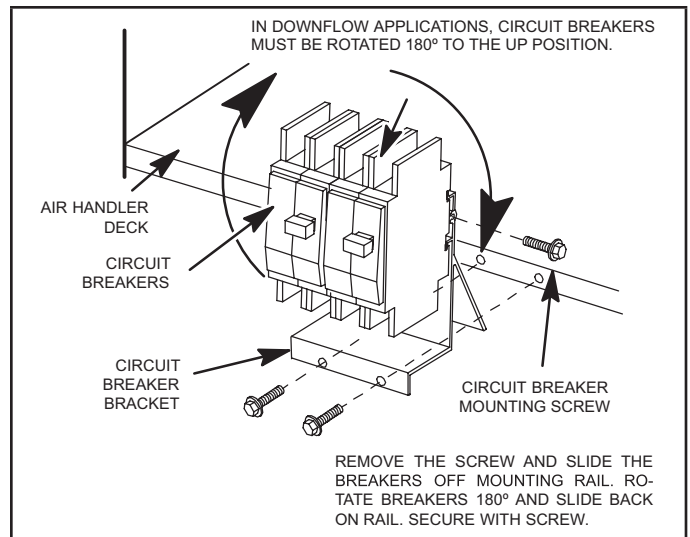

FIGURE 3. Electric Heat Section with Circuit Breakers
- 1 - Install the circuit breaker on the air handler deck flange. Use the provided six screws to secure the circuit breaker (see figure 3).
NOTE – When applied in the downflow position, **the circuit breakers must be rotated to the UP position.** See figure 3 and follow the procedure below: